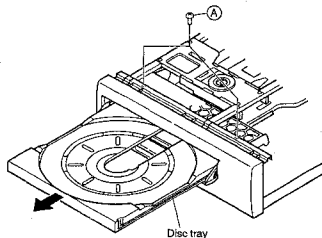
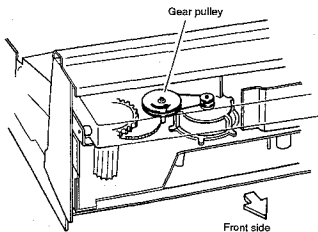

Fig. 1
Fig. 2
- ① Remove two screws (A) for tray stopper. (Fig. 1)
- ② Remove the front panel. (by loosening three screws at the top side and a fixing screw of the earth lead.)
- ③ Turn the gear pulley (Fig.2) counterclockwise by hand.
- ④ After the disc tray is lifted up and moved toward you, pull out the disc tray toward you by hand.
- ③ Insert so that the first tooth of the straight gear on the rear of the disc tray meshes with the chipped gear teeth of the roller plate assembly.
- ④ Tighten two screws (A) for disc tray stopper. (Fig. 1)